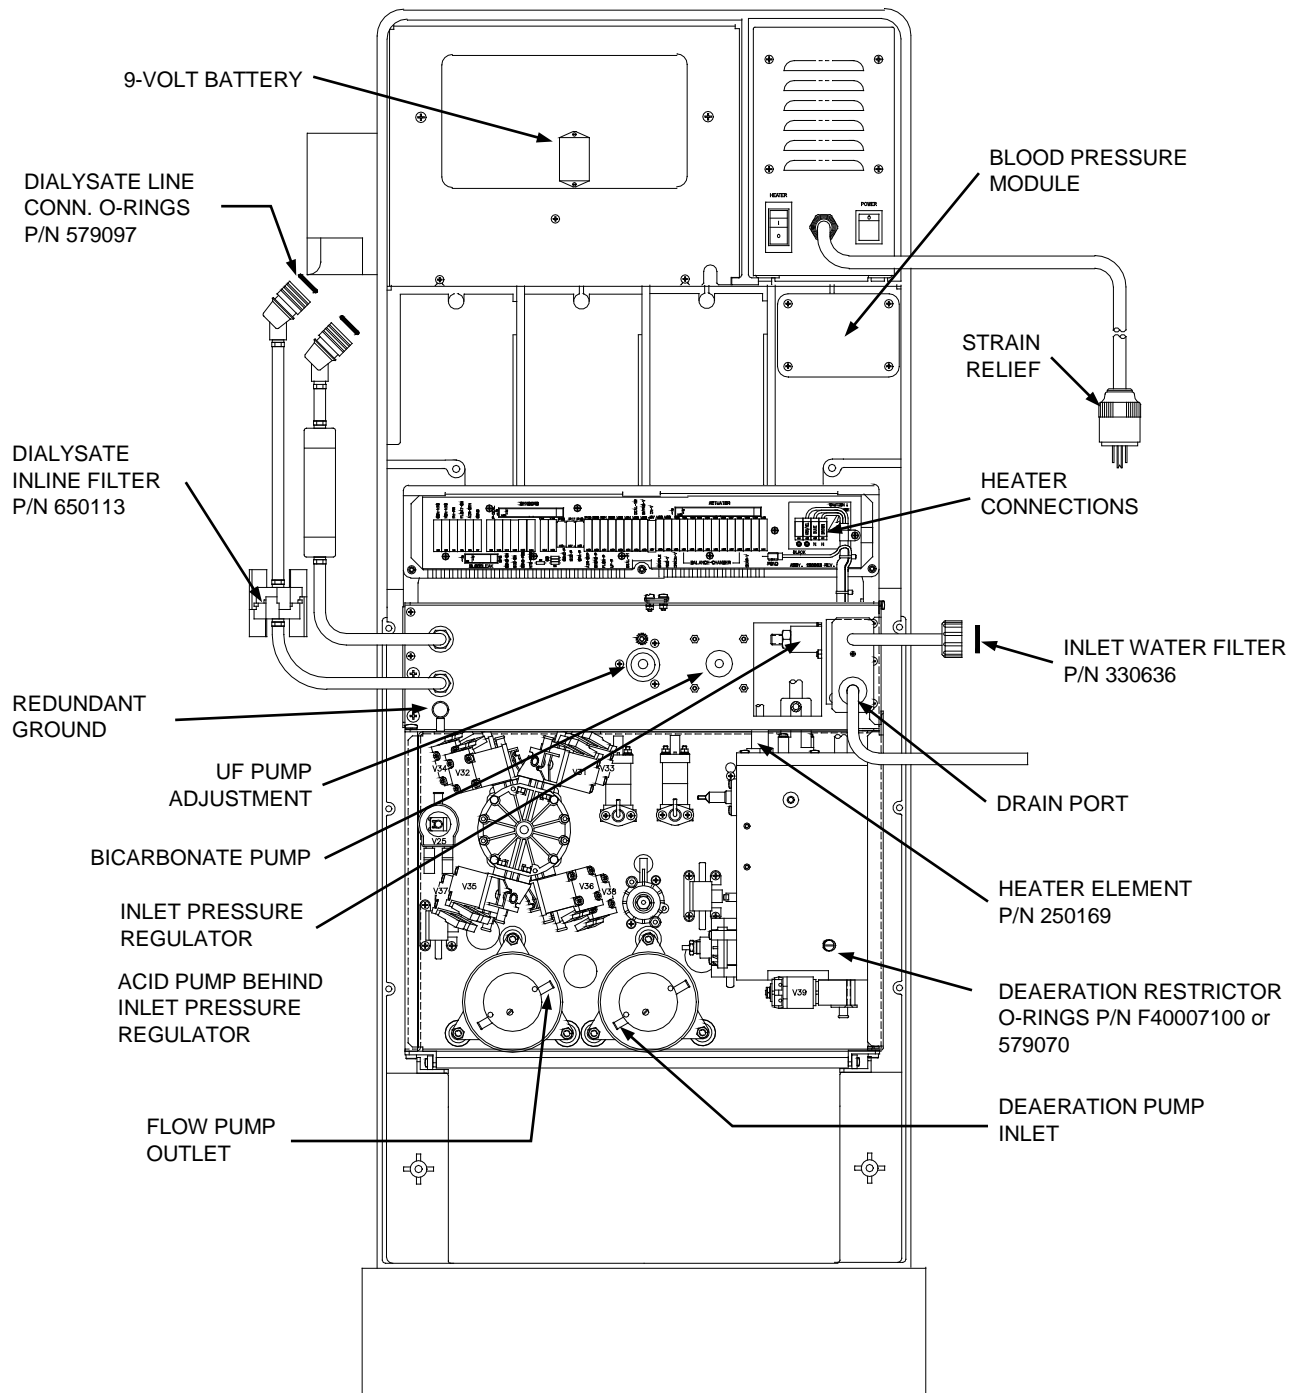

Figure 3 - 2008K Hemodialysis System, Rear View.
1. Inlet Water Filter in the inlet connector of the water supply (See Figure 3, pg. 8).
3. Clean the Dialysate Inline filter (See Figure 3, pg. 8).
1. Remove power from the machine then check and tighten the 8-pin heater connections next to the distribution board (See Figure 3, pg. 8). Check heater block AC connections for signs of arcing or melting.
5. At the strain relief, locate the black, white and green wires from the power cord (inside the power supply chassis). Follow the black and white wires to the main power switch. Attached to the main power switch are four (4) wires (2 black and 2 white). Look for loose connections, cracked insulation, and signs of overheating, such as discolored or melted insulation. Replace wires with power supply wire kit (part number 190411).
7. With a digital multimeter, measure the resistance between the round (ground) pin on the power plug and the redundant ground terminal on the machine (See Figure 3, pg. 8). Verify that the resistance is less than 0.2 ohm. If the value is above 0.2 ohm, measure the internal resistance of your meter by shorting the leads together, then subtract this value from the resistance measured between the power plug ground pin and the redundant ground terminal on the machine to obtain the true ground resistance.
8. Record the measured value on either the Six (6) Month Preventive Maintenance Checklist or the Annual/4000 Hour Preventive Maintenance Checklist depending upon which is being performed.